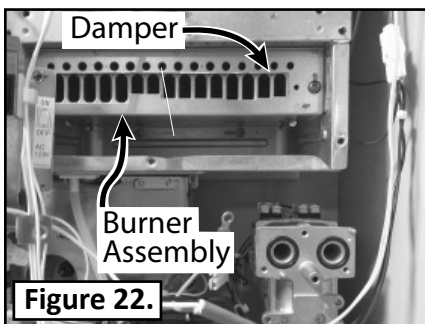

Figure 22.
5. Remove the burner assembly according to the following steps. (See Figure 22.)
- 5.2 Note the orientation of the damper, then remove the damper (item 112, p. 69). See Figure 22.